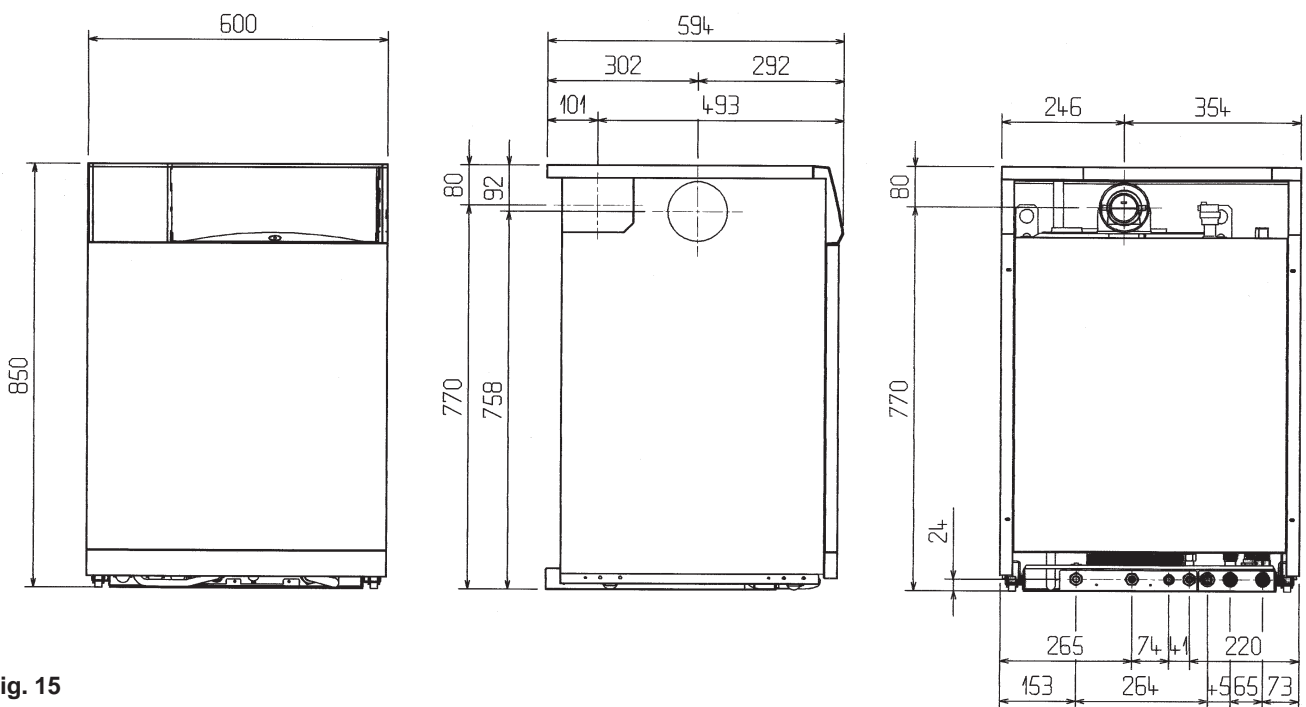

Fig. 15
5.3.4 Refer to figs.15 for relevant dimensions for locating the flue hole: Where it is remote from the boiler take special care to ensure hole is at the correct level. Drill a 105mm hole through the wall to allow passage of the flue pipe.
Using the dimensions given in fig. 15, mark and drill a 115mm level hole for the passage of the flue pipe.
Using the dimensions given in fig. 15 & 16b as a reference, mark and cut a 107mm hole in the ceiling and/or roof.